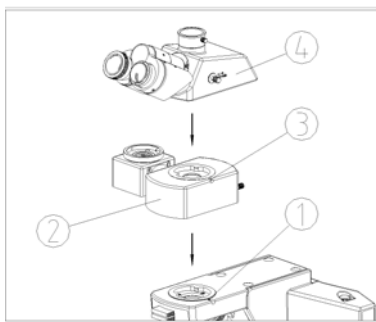
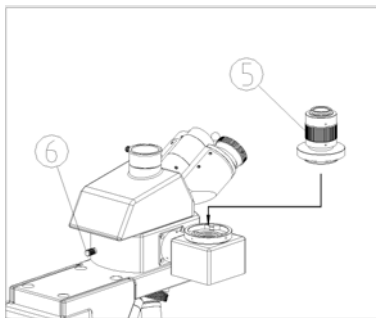

Fig. 30
Fig. 31
- (1) Loosen the lock screw on illumination arm ①. (See Fig. 30)
- (2) Insert dovetail interface on the bottom of intermediate optical splitter ② into the stand, then tighten the lock screw ①.
- (3) Loosen the lock screw on optical splitter ③.
- (4) Insert dovetail interface on the bottom of the observation head ④ into the optical splitter and tighten the lock screw ①.
- (5) Insert the c-mount adapter ⑤ into the intermediate optical splitter ② as shown in Fig. 31. See **3-17 Assembling Camera Adapter** for more details.
- (6) For binocular observation, pull the light path selection lever ⑥ out and observe the image. If the image is unclear, rotate the focus adjustment ⑦ until image is in focus.